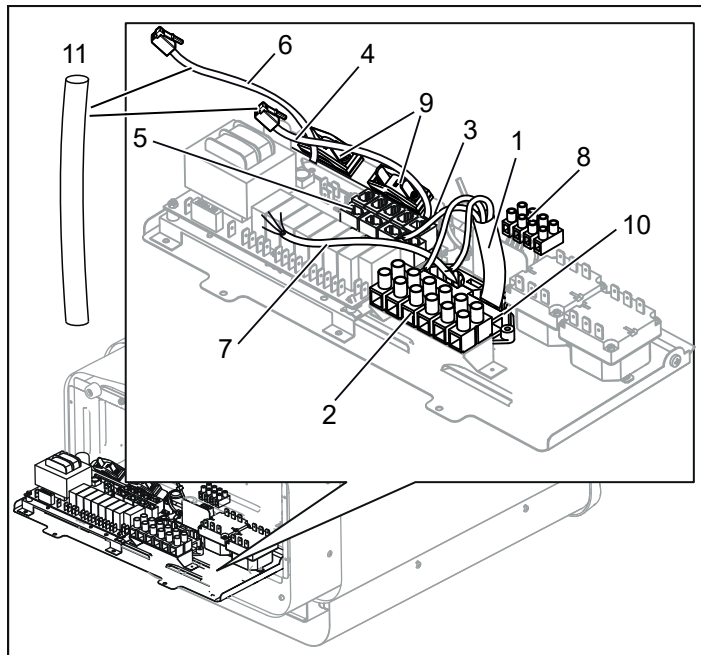
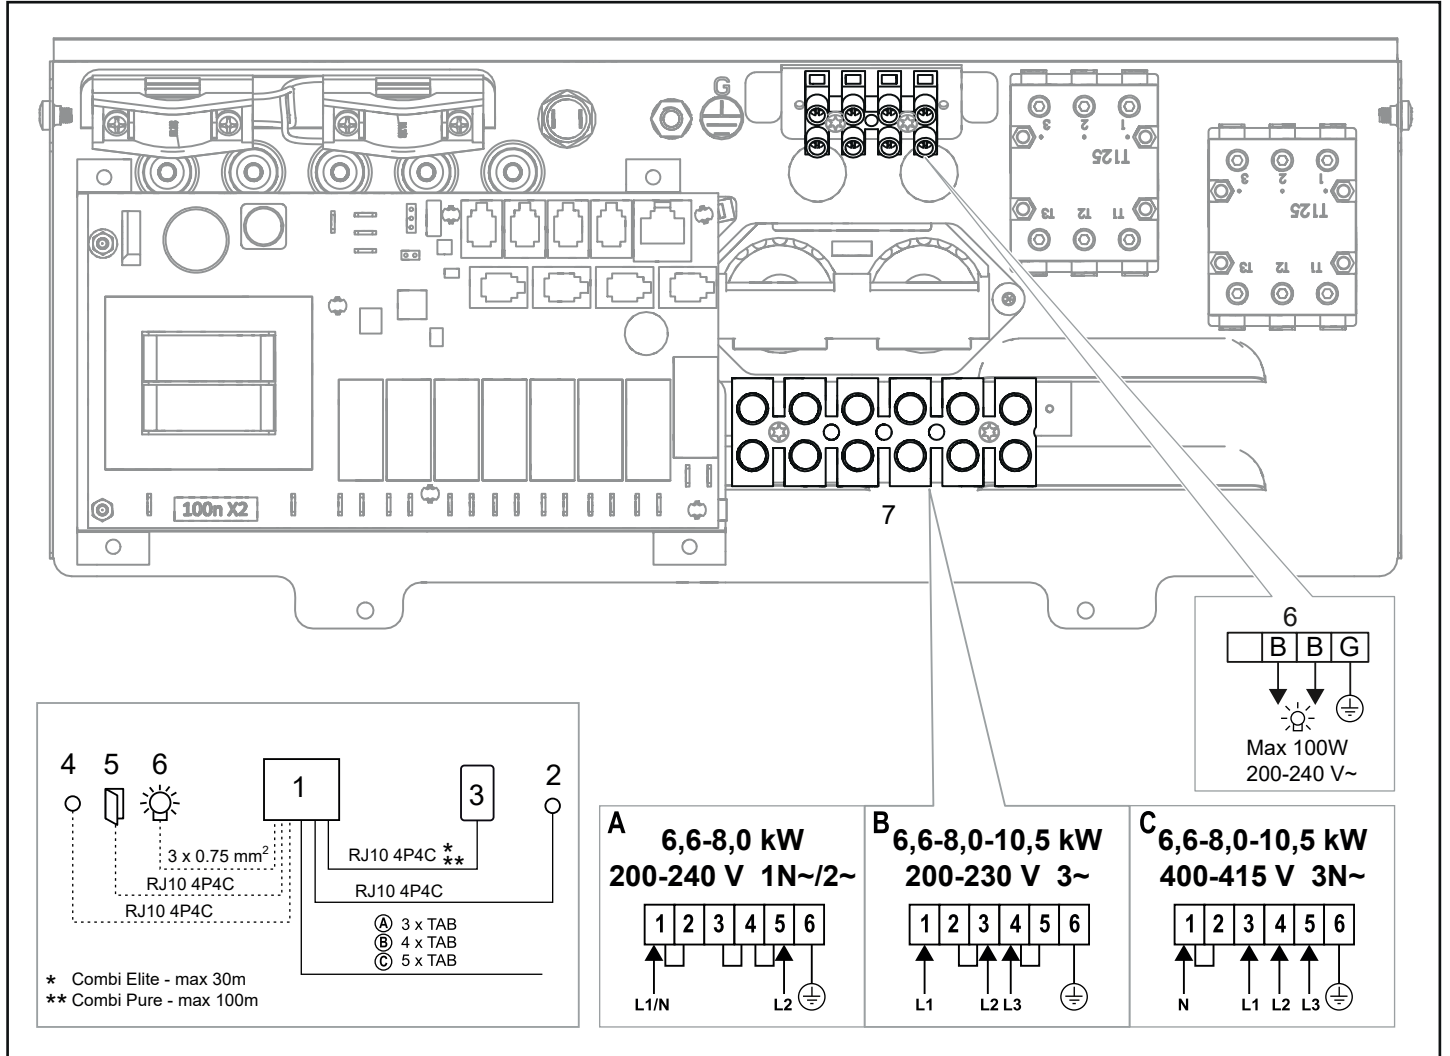
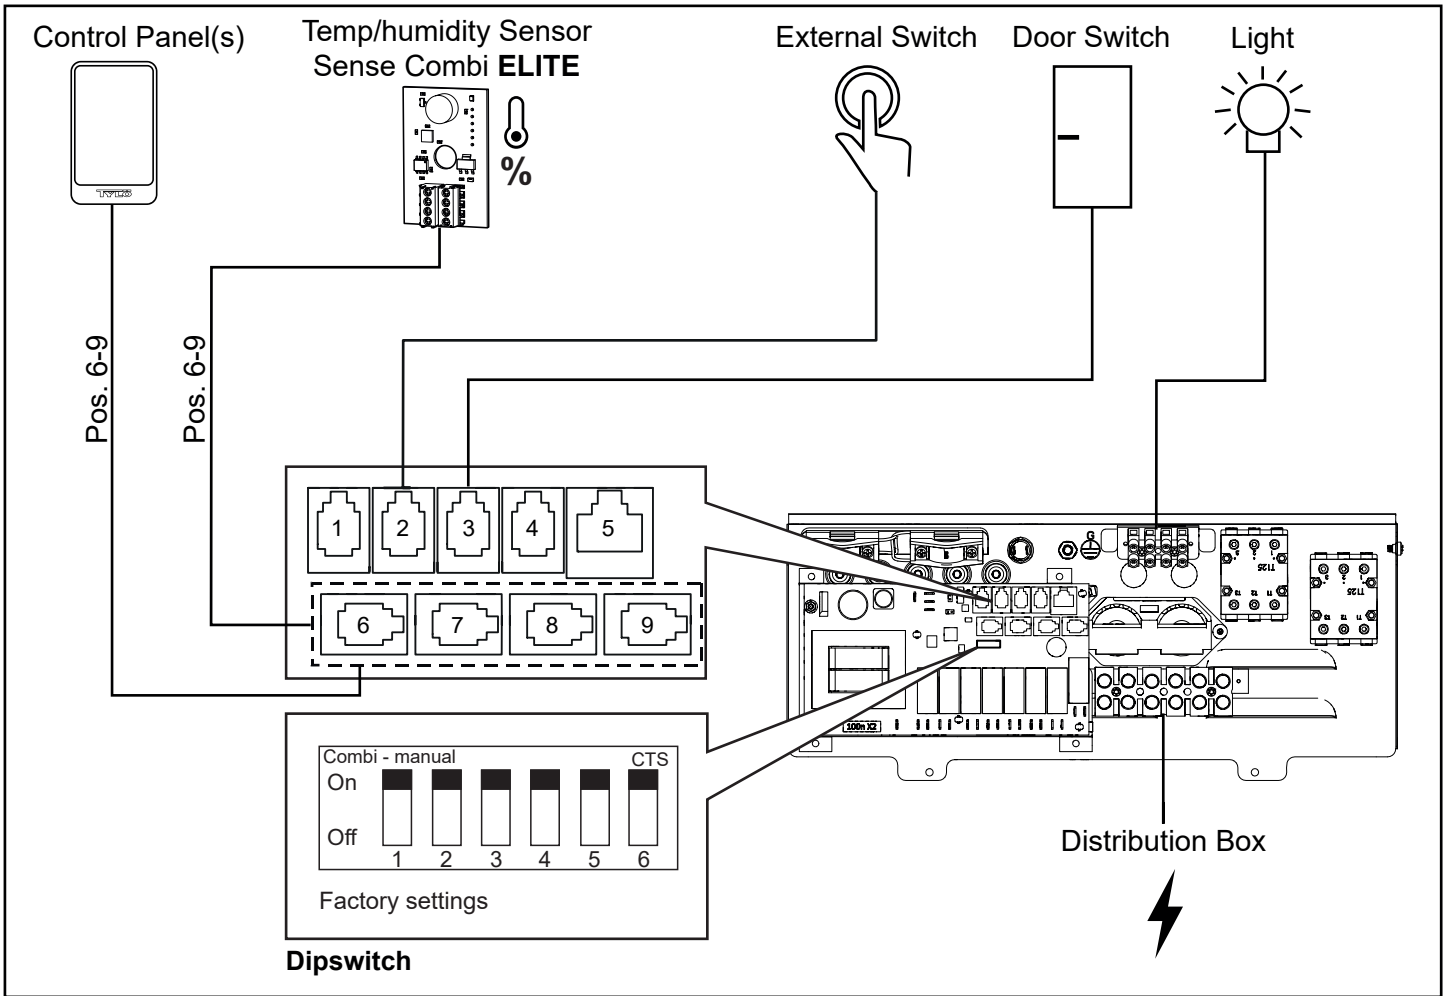
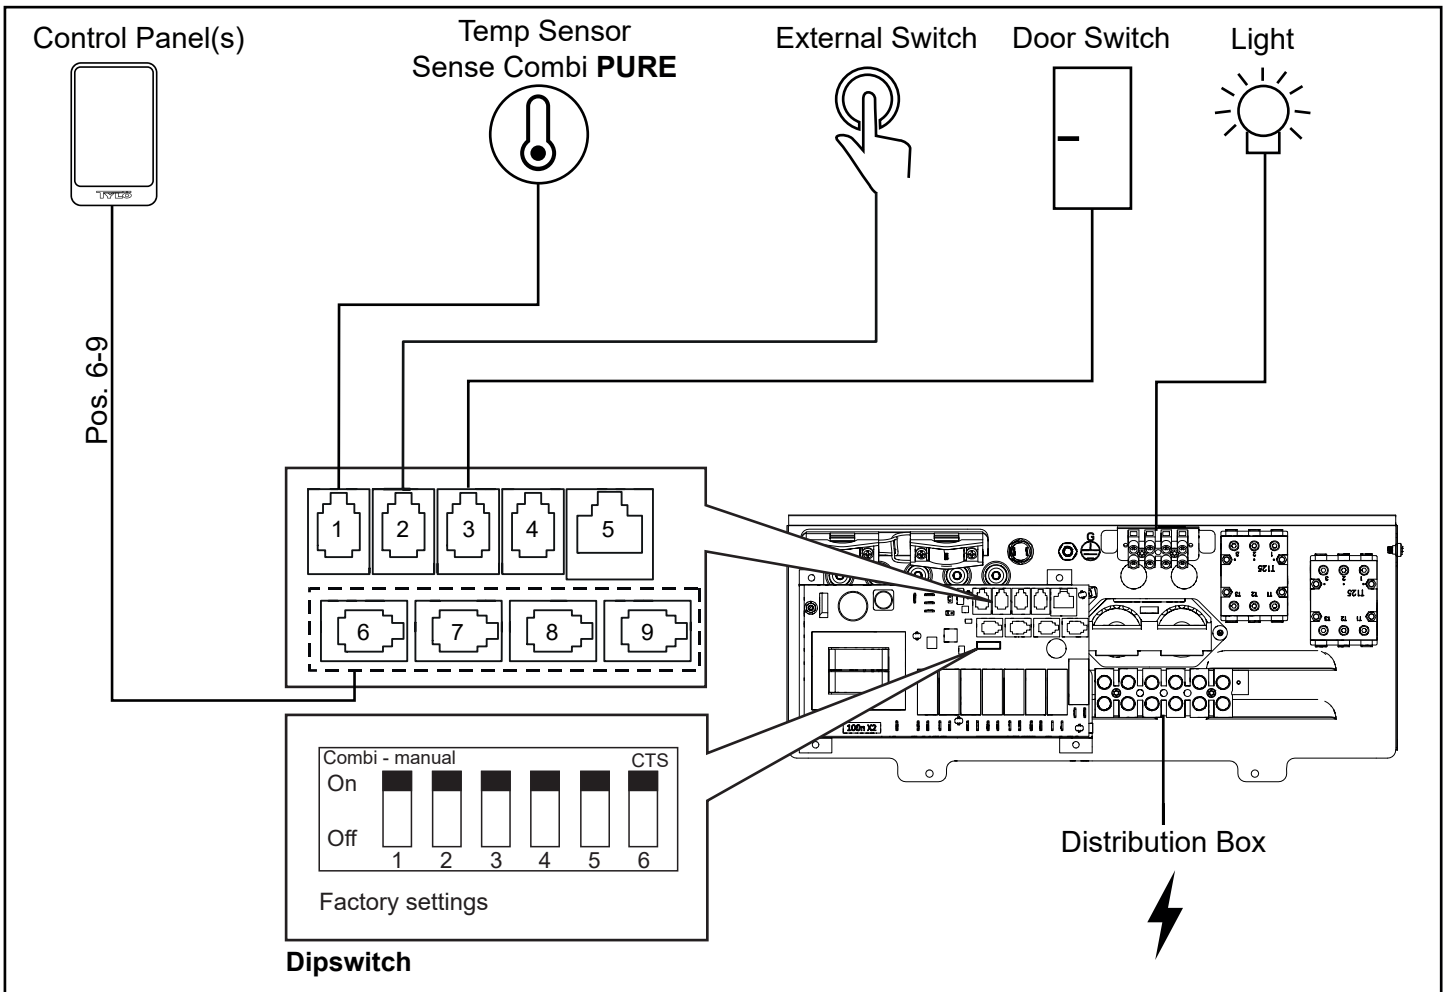

Figure 10: Circuit board
Figure 17: Wiring diagram
Figure 19. Schematic diagram of installation Sense Combi Elite
Figure 20. Schematic diagram of installation Sense Combi Pure
5. Run the cables for the control panel and the temperature sensor through the cable grommets (see Figure 10). Connect the control panel cable to one of the four RS485 contacts (positions 6-9) (see Figure 19, 20).
6. **Combi Pure:** Connect the sensor cable to the NTC contact on the circuit board (position 1) (see Figure 20). **Combi Elite:** Connect the humidity- and temperature sensors cable to one of the four RS485 contacts (positions 6-9) (see Figure 19).
7. Connect the light cable (if relevant) (7), see Figure 10, according to the wiring diagram Figure 17.
4. Connect the electrical cable (see Figure 10) according to the wiring diagram (see Figure 17).
Contact Tylö Customer Service before connecting to voltages or numbers of phases that are not listed in the wiring diagram Figure 17.